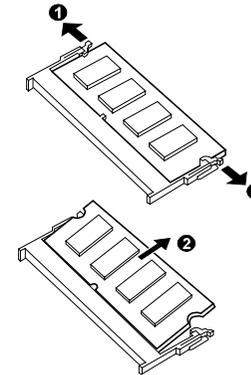

Figure 2-14 Remove the DDR SDRAM
4. Pull the retaining clips outwards (❶) and remove the SO-DIMM (❷). (Figure 2-14)